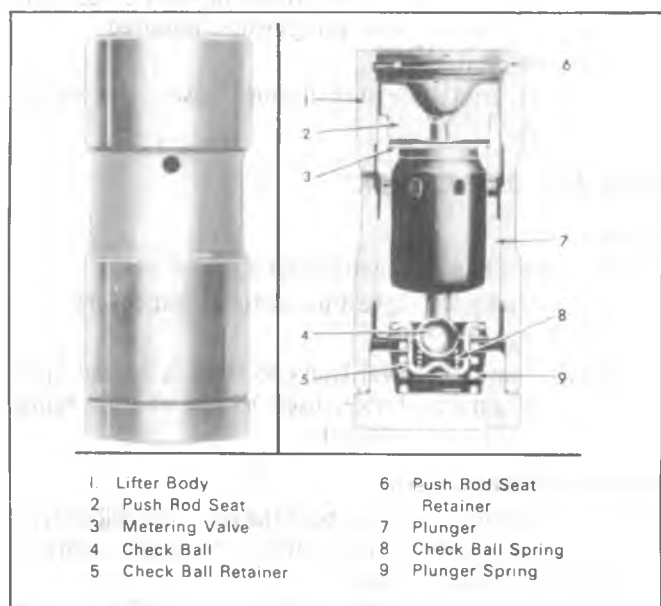

Fig. 6A1-12--Hydraulic Valve Lifter
2. Remove the push rod seat and metering valve (fig. 6A1-12).
4. Remove the ball check valve and spring by prying the ball retainer loose from the plunger with the blade of a small screw driver (fig. 6A1-13).
graduations on the gaging plastic envelope (fig. 6A1-31).